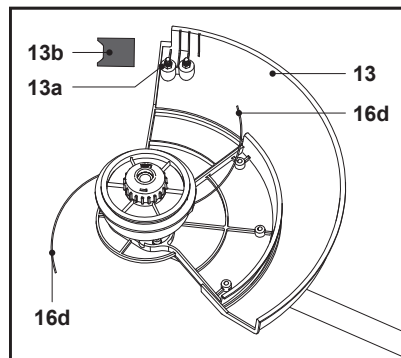

Fig. 17
The trimmer guard (13) protects the operator against thrown objects during operation. It is equipped with a knife (13a) that cuts the trimming line (16d) (Fig. 17).